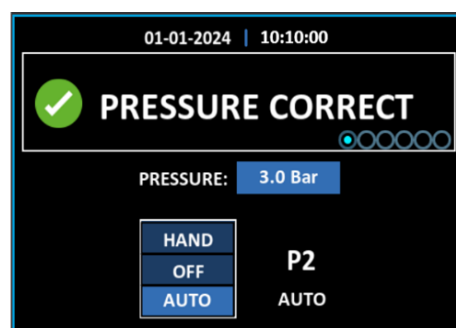

Fig 3.21: Pump 1 Mode Selections (Hand, Off, Auto)
- Use the 'UP'  and 'DOWN'  arrow buttons to navigate between 'HAND', 'OFF' and 'AUTO' (see Fig 3.21).